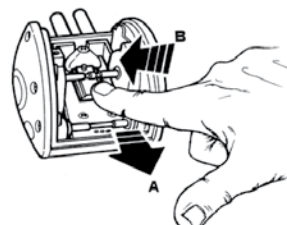

Fig. 2 - Filter cleaning
- Clean the filter at least once a month by means of compressed air. Replace the filter every 6 months. Recommendations are approximate and must be adopted to the real necessities. (Fig.2)